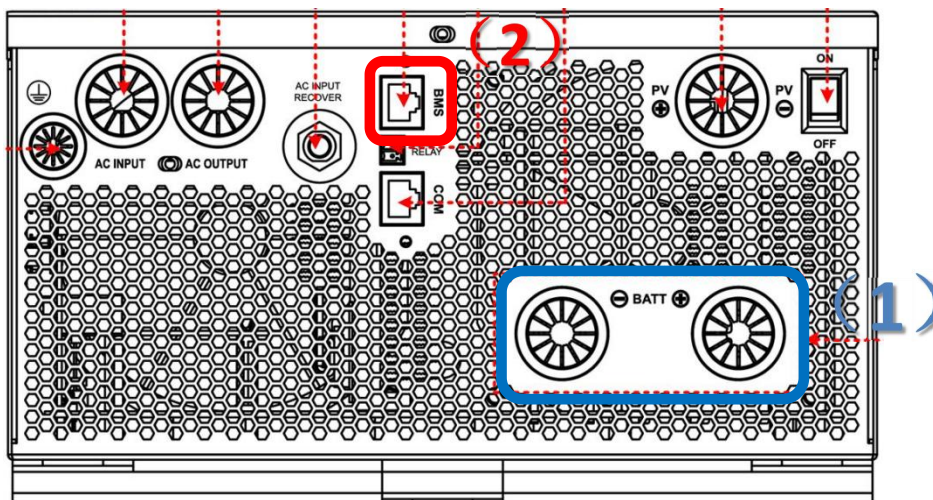

Figure1
1. Connect the power cables between inverter and battery or the Busbar. The battery connector is (1) shown in figure1. See Figure 3 for detailed parameters of power cable.
Use RS485 protocol. Plug in the **7A8B** into the **RS485 port** of the Pytes battery and plug in the **6A4B** into **BMS Port (2)** as shown in Figure 1.